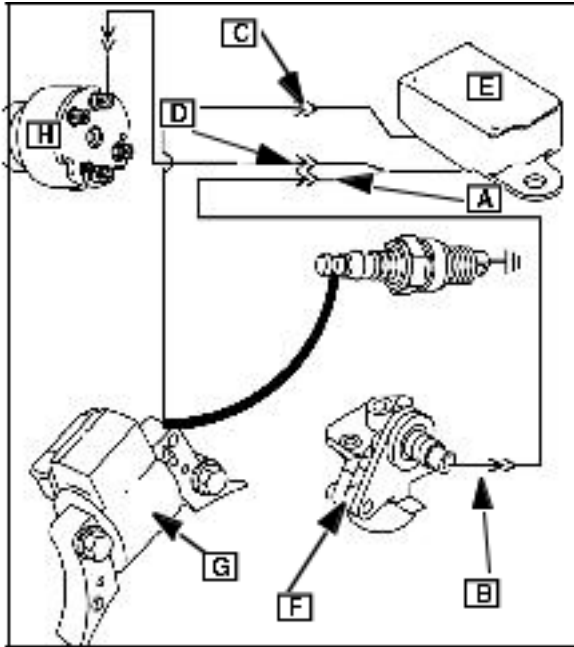

Fig. 51
Disconnect the BLUE or BLACK wire at ([A] Fig. 51) and start engine.
Replace the module ([E] Fig. 51) and retest.
Check continuity in the wire between ([A and B] Fig. 51).
Disconnect wires at ([C and D] Fig. 51) and attempt an engine start.
- Check the ignition switch ([H] Fig. 51).